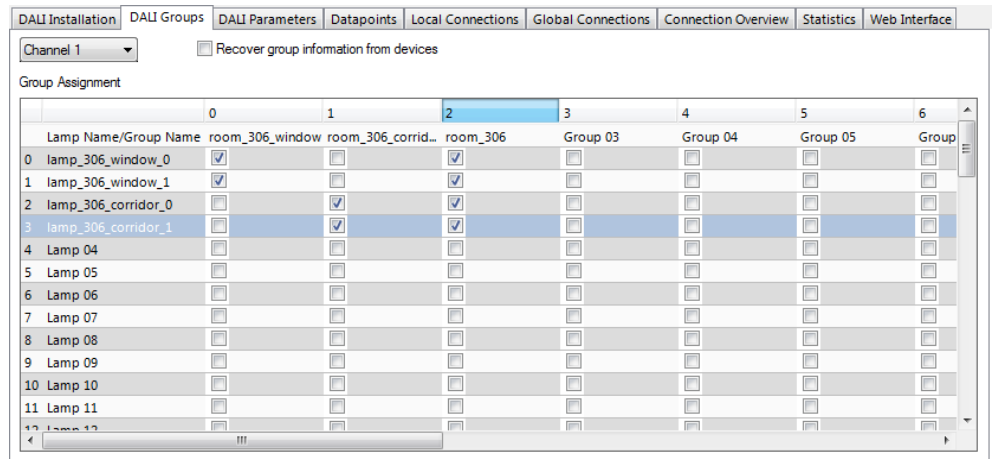

Figure 20: LINX Configurator software, DALI group configuration.
2. Add the two lamps near the window to group 0, the two lamps near the corridor to group 1 and add all lamps in the room to group 2. Assign names to the groups as shown in Figure 20.